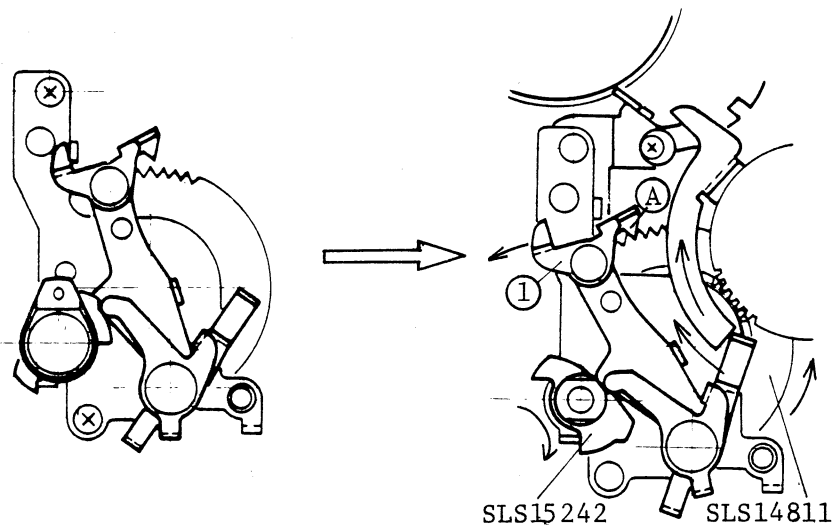

Fig.80
- 1) When setting the multiple-exposure lever to Multi, the SLS15242 Cam turns about 1/4 turn (90°) in direction shown by the arrow in Fig. 80.